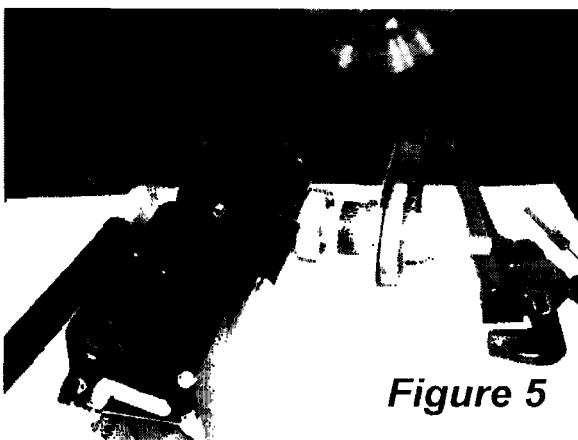
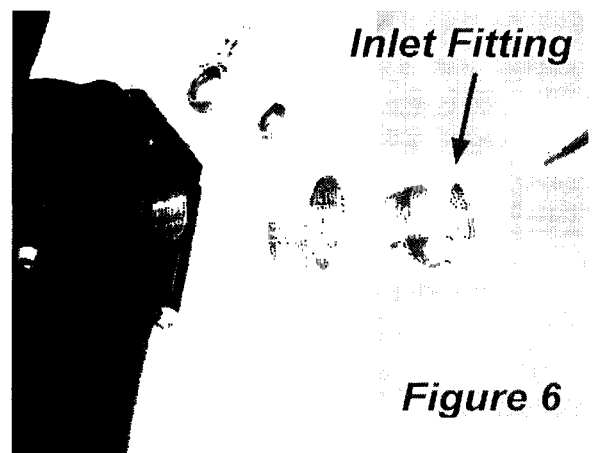

Figure 5
Figure 6
7. Remove the adapter fitting for the inlet from the old pump and reinstall on the new pump. Ensure you use pipe joint compound on the male threads only. Do not allow it to drip into the pump. (Figures 5 & 6 below) When removing the inlet adapter from the old pump, remove the old adapter fitting seen in Figure 6.